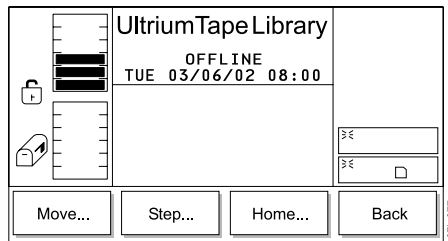

Figure 317. Picker Submenu
- Press the button below the **Picker** softkey. The Picker Submenu displays (see Figure 317).